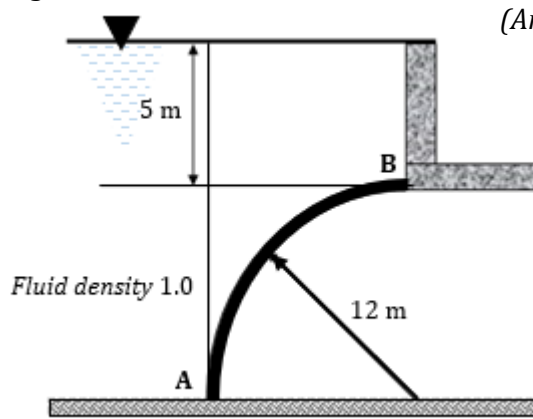

Figure 14
14. Calculate the horizontal force and vertical force acting on the curved plates per meter length (3 m) as shown in the figure 14 below. (Ans: 3884760 N, 2675265.48 N)